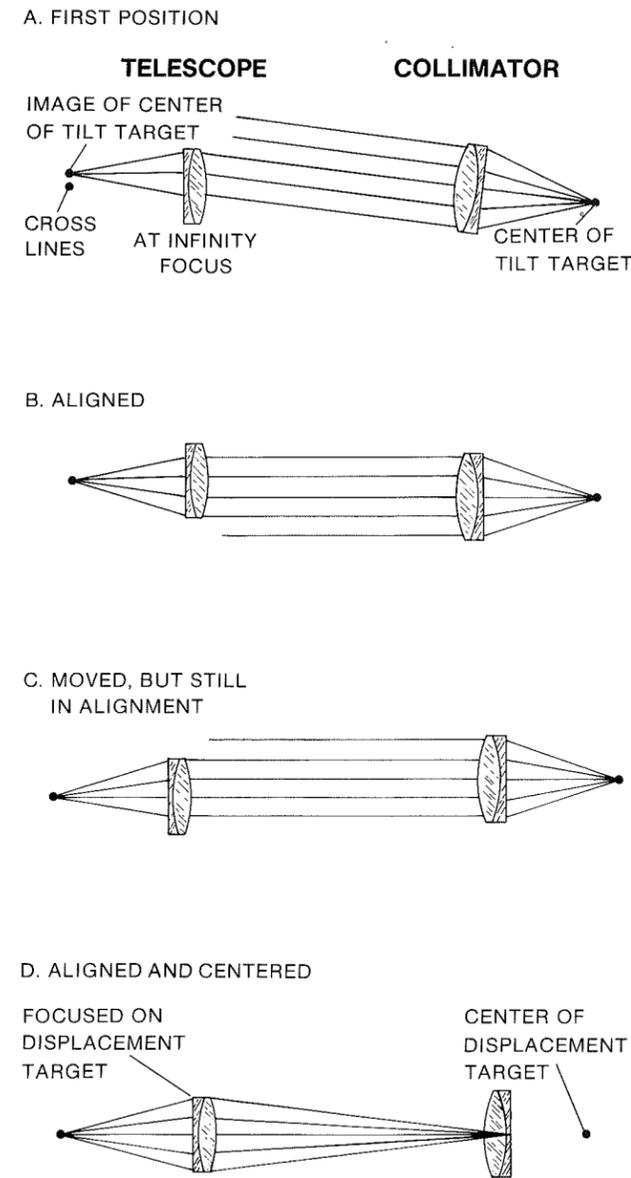

Figure 2-8. Alignment Collimator Used with Alignment Telescope
**2-28.** When the Alignment Collimator is tilted with respect to the Alignment Telescope or Line of Sight Telescope, the center of the tilt target will not appear on the cross lines of the telescope. (See A, Figure 2-8.) To bring the center of the tilt target on the cross lines of the telescope, the Alignment Collimator must be directed
so that the light rays emerging from it are parallel with the line of sight of the telescope as shown in B, Figure 2-8. After the tilt has been corrected, the Alignment Collimator can be moved a small amount parallel to itself, and the center of the tilt target will remain exactly on the cross lines of the telescope as shown in C, Figure 2-8. This must be the case because such movement of the Alignment Collimator keeps the rays from the collimator parallel to the line of sight of the telescope, as was the case before the movement.